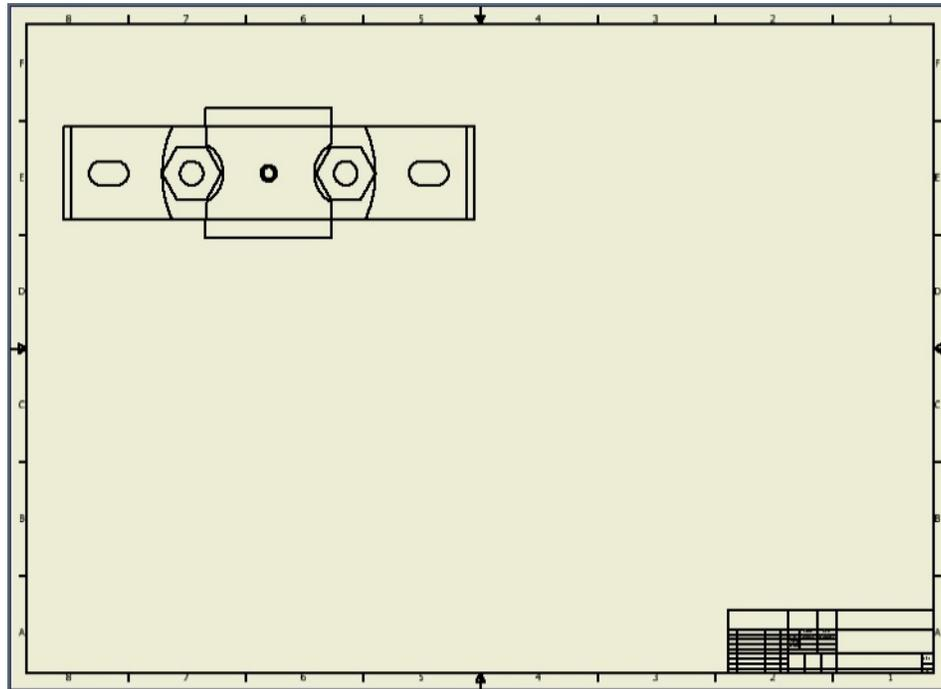

Figure 11-51 Top view of the assembly
5. Change orientation of view as top view by using ViewCube in the graphics window, as shown in Figure 11-51.
- Select and drag the drawing view close to the top left corner of the sheet, refer to Figure 11-51.